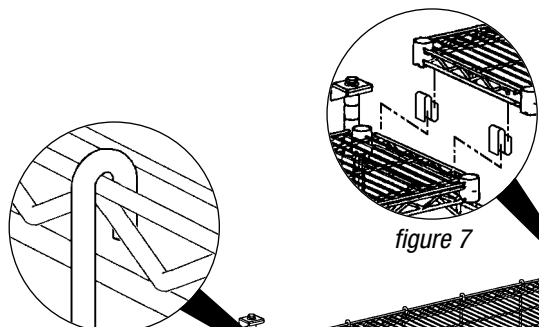

figure 7
- Hook two S-hooks onto the outside of the top shelf (see figure 7).
- Lay adjoining shelf inside S-hooks (see figure 7). Repeat this step for remaining shelf.